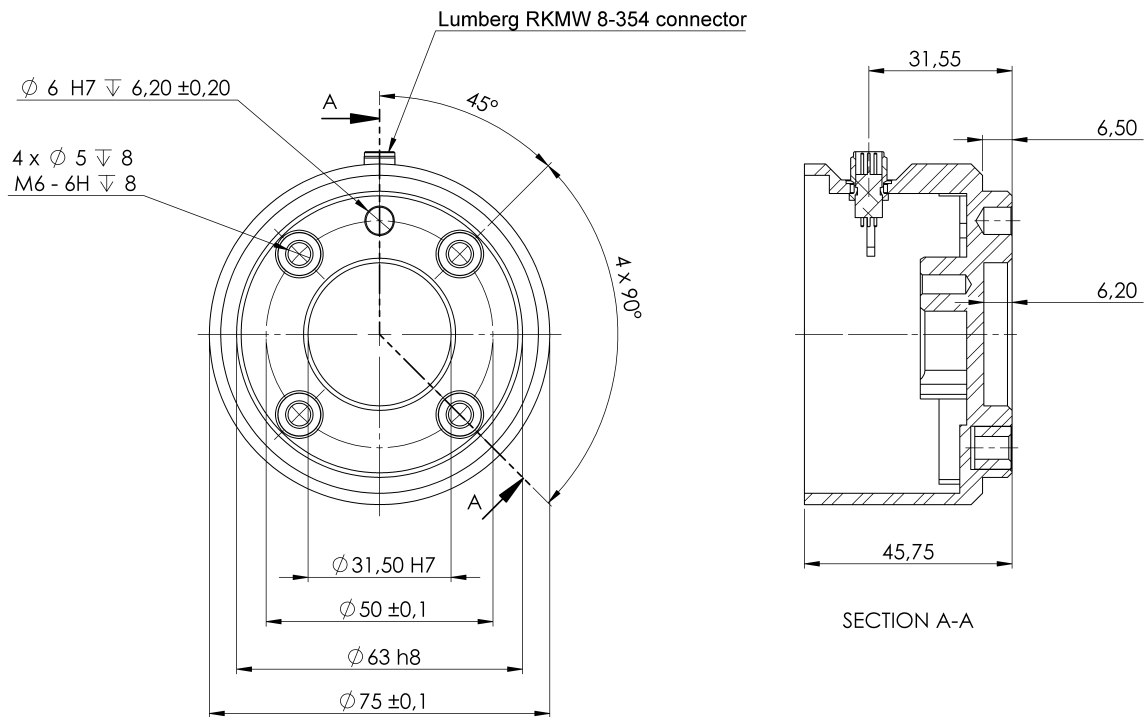

Figure 4.2: The tool output flange (ISO 9409-1-50-4-M6) is where the tool is mounted at the tip of the robot. All measures are in mm.
**Tool** The robot tool flange has four M6 thread holes for attaching a tool to the robot. The M6 bolts must be tightened with 8 N m, strength class 8.8. For accurate tool repositioning, use a pin in the  $\varnothing 6$  hole provided. Figure 4.2 shows dimensions and hole pattern of the tool flange. It is recommended to use a radially slotted hole for the pin to avoid over-constraining, while keeping precise position.